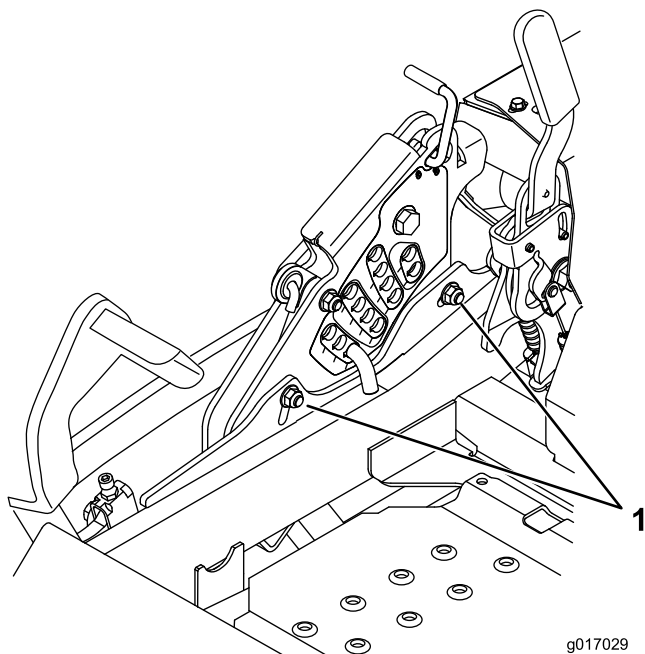

Figure 91
12. To adjust the single point system, loosen the two bolts at the bottom of the height of cut plate. Refer to Figure 91.
14. Tighten the two bolts at the bottom of the height of cut plate (Figure 91). Torque to 27-33 ft-lb (37-45 N-m).